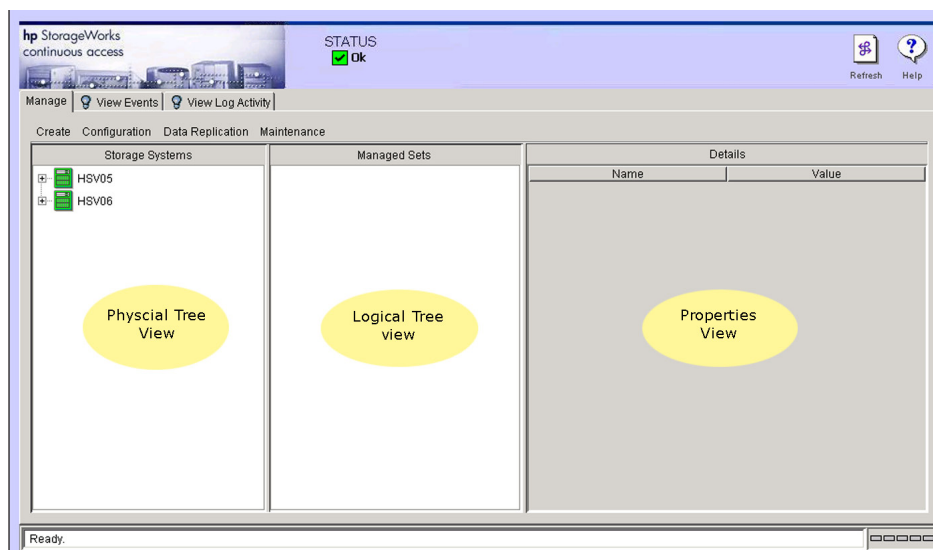

Figure 24: Continuous Access user interface main window
- Click the **continuous access** icon. The Continuous Access user interface main window opens (Figure 24).